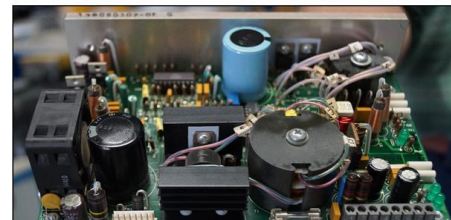

Fig. 4: The M217 has high reliability, modular DC voltage supplies (top photo) vs. the proprietary all-in-one scheme used in the M207 (bottom photo).
- Another area where the M217 improves upon the M207 is the DC voltage supplies (Figure 4). Based on CSI's experience, the most common system failure in the M207 is the Low Voltage P/S. For the M217, AMI has chosen a quality third party supplier who has engineered and manufactured power supplies completely in the USA for almost 30 years. The units included in the M217 have an MTBF rating of 100,000 hours. Fully certified, including UL and CE, they are also qualified for use in the medical industry.